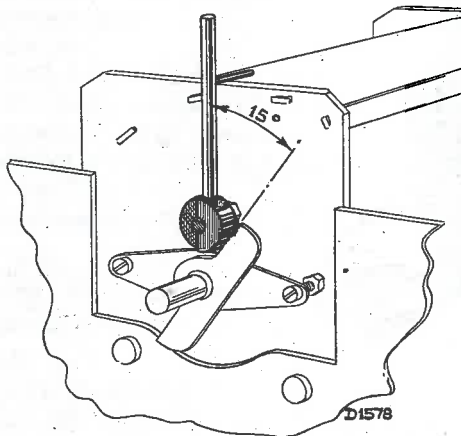

Fig. 3
2. Fit the 15° gauge (fig. 3) and turn the tuning